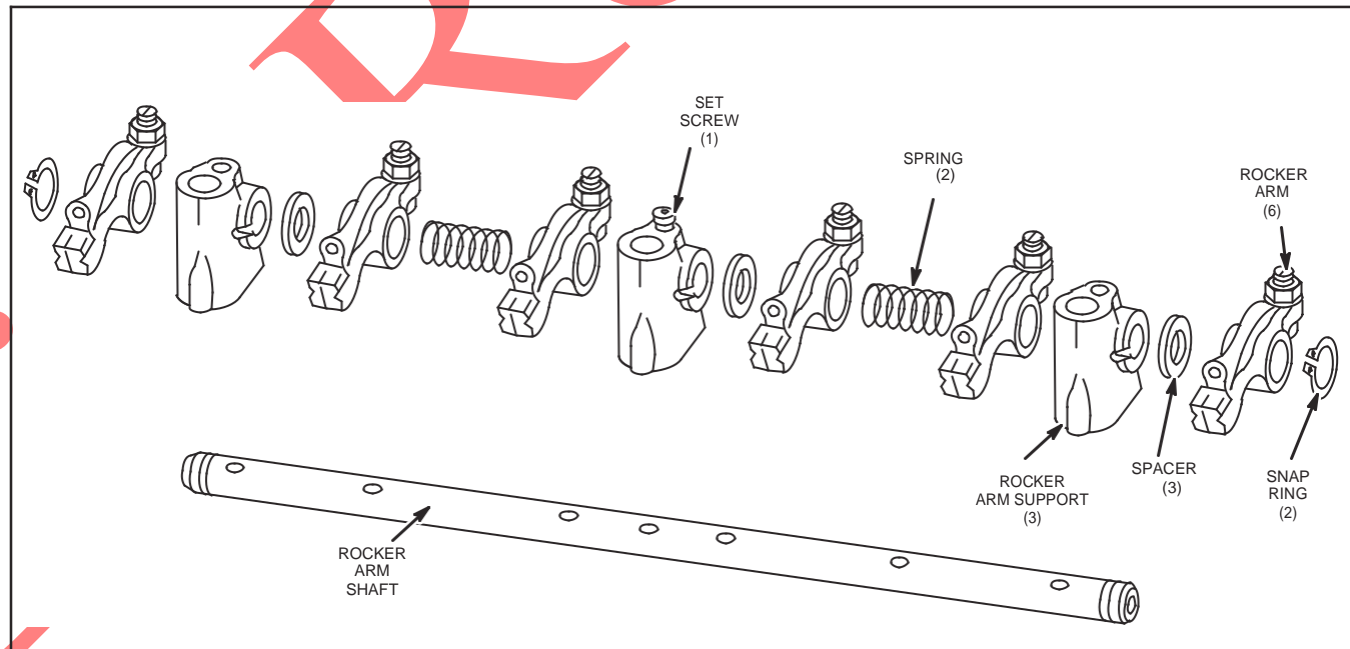

Fig. 25 – Rocker Arm Components
1. Remove snap rings from ends of rocker arm shaft. Remove set screw from center rocker arm support. Disassemble rocker arm assembly. Note position of all components, Fig. 25.